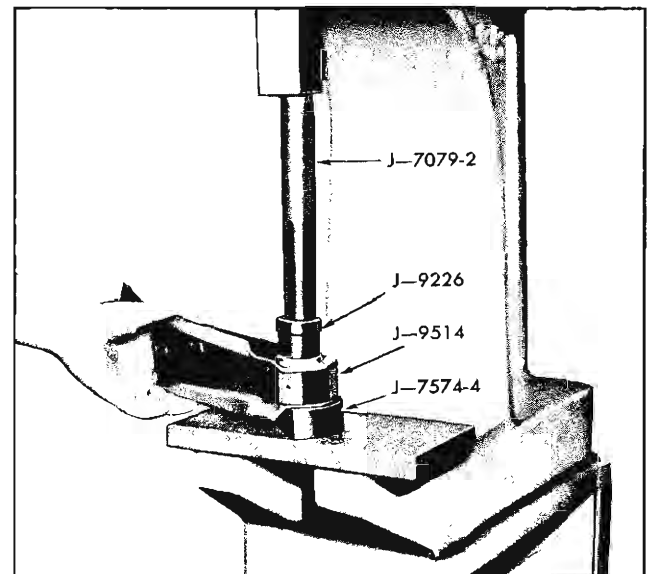

Fig. 38—Removing Lower Control Arm Pivot Bushing—Chevy II
1. Support control arm on Tool J-7574-4 and insert Spacer J-9514 (fig. 38).
2. Press bushing out with Tool J-9226 and Handle J-7079-2 (fig. 38).